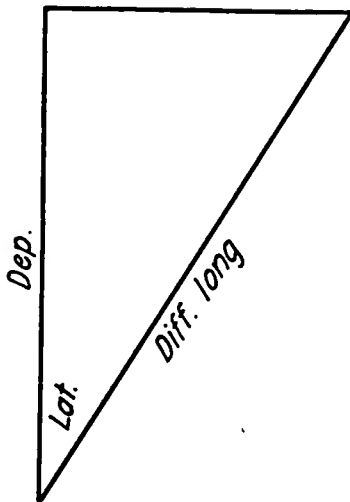

Figure 3
D. Lat. = Dist. cos C, and Dist. = D. Lat. sec C, we may substitute for the column marked *Lat.* in Table 2 the *Departure*, for that marked *Dist.* the *Difference of Longitude* and for the courses at top or bottom of the page, the Latitude. Figure 3.